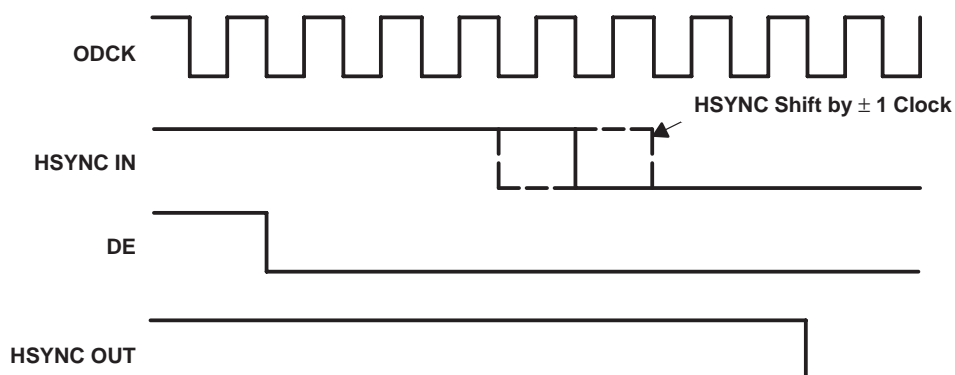

Figure 16. HSYNC Regeneration Timing Diagram
The TFP9431 integrates HSYNC regeneration circuitry that provides a seamless interface to these noncompliant transmitters. The position of the data enable (DE) signal is always fixed in relation to data, irrespective of the location of HSYNC. The TFP9431 receiver uses the DE and clock signals to recreate stable vertical and horizontal sync signals. The circuit filters the HSYNC output of the receiver, and HSYNC is shifted to the nearest eighth bit boundary, producing a stable output with respect to data, as shown in Figure 16. This will ensure accurate data synchronization at the input of the display timing controller.